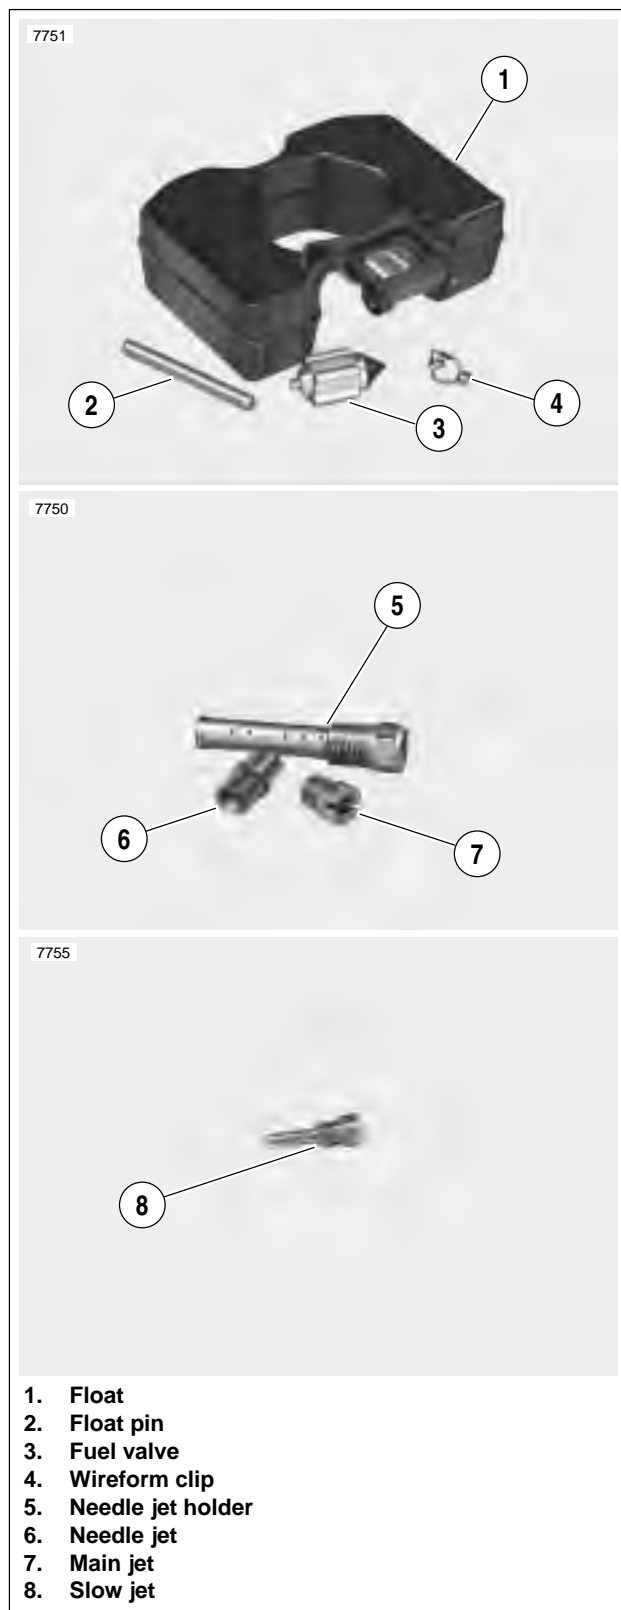

Figure 4-13. Carburetor- Bottom End
3. See Figure 4-13. Remove float (1) and fuel valve (3). Carefully slide clip (4) and fuel valve (3) from tab on float (1). Remove wireform clip (4) from groove in fuel valve (3).
6. See Figure 4-13. Turn carburetor right side up to drop out needle jet, which is loose in main jet bore.
- See Figure 4-13. Thoroughly clean all loose parts with carburetor cleaner. Blow dry using low pressure compressed air.
1. See Figure 4-13. Insert slow jet into slow jet bore. Insert thin bladed flat tip screwdriver into bore, and using slot at top of slow jet, tighten until snug.